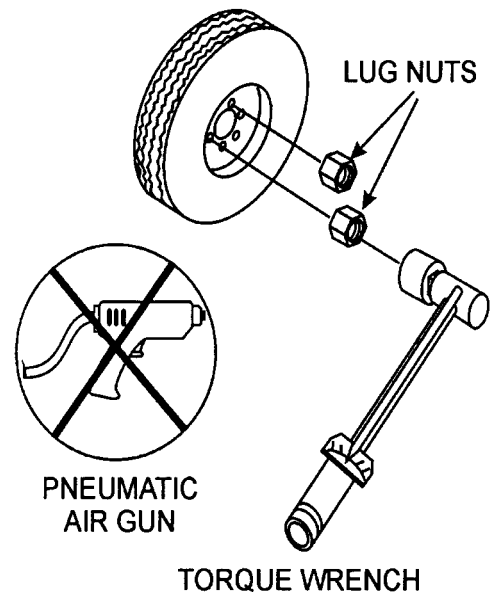

Figure 5. Lug Nut Tightening Sequence
2. Torque all lug nuts in sequence. See Figure 5. **DO NOT** torque the wheel lug nuts all the way down. Tighten each lug nut in 3 separate passes as defined by Table 4.